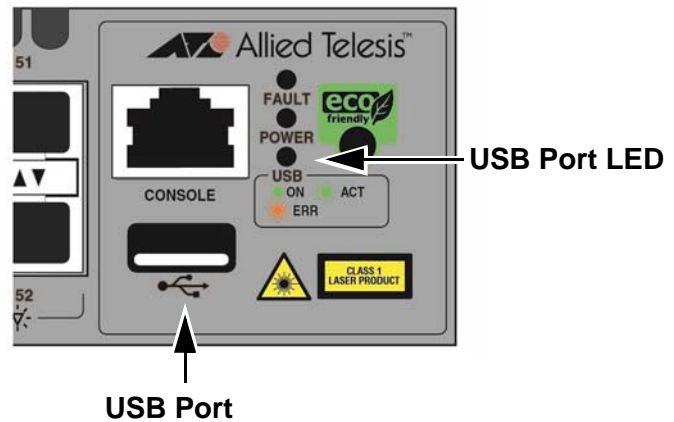

Figure 9. USB Port and LED
**USB Port LED** The USB port has one LED, shown in Figure 9.